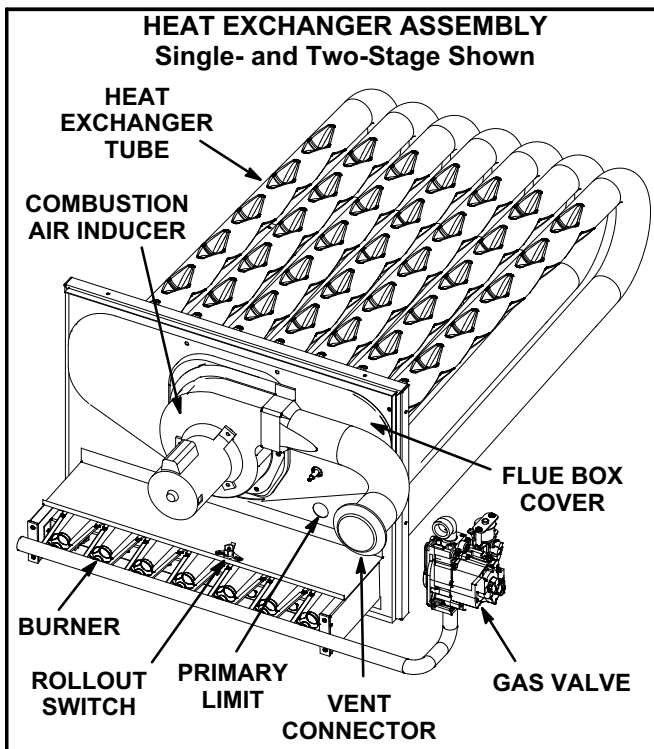

FIGURE 38
- 4- Remove and retain screws securing combustion air inducer to flue box. Remove vent connector. See figure 38.